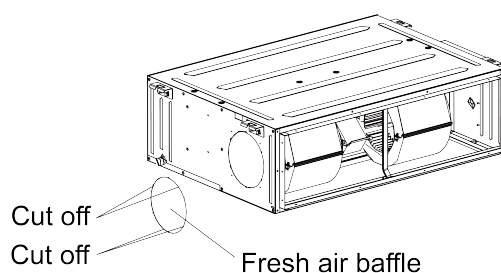

Fig.4.4.6
- (1) When the fresh air pipe is needed to be connected, cut the fresh air baffle as Fig.4.4.6. Plug up the gap of the fresh air baffle by sponge if the fresh air duct is not be used.